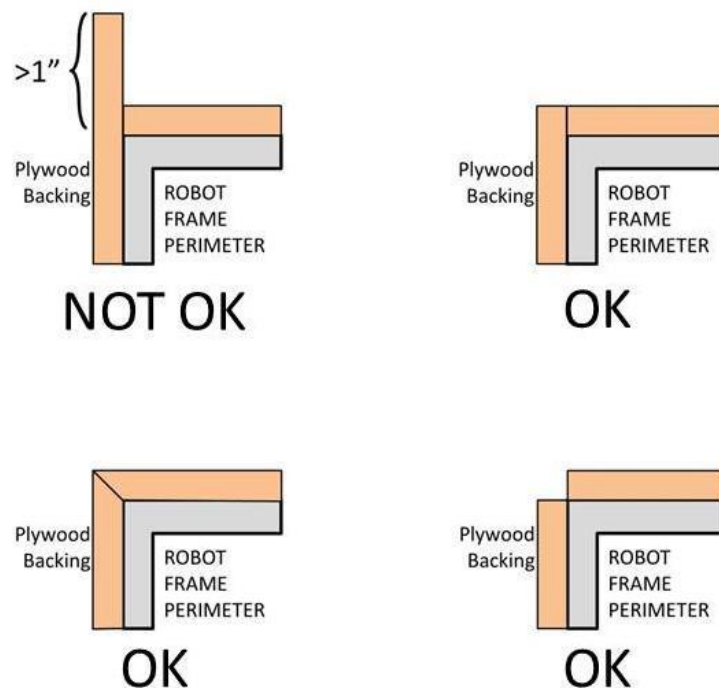

Figure 9-5 Hard parts of BUMPER corners
- B.** hard BUMPER parts allowed per R24-A, -E, -F, and -G must not extend more than 1 in. (~25 mm) beyond the FRAME PERIMETER (measured as shown in Figure 9-5).